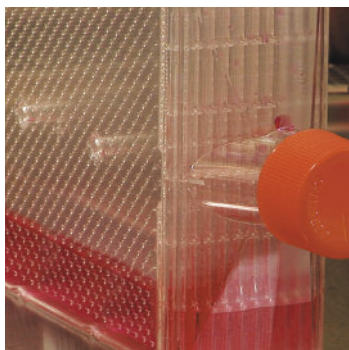

Figure 5. Any liquid inside the flask will distribute evenly into each layer of the flask when it is placed on its side.
3. Close cap securely and lay the flask on its side to allow the solution to distribute evenly between layers. This ensures that each layer of the flask receives the same volume of liquid (Figure 5).
3. Cap the flask and lay it on its side to allow the solution to distribute evenly between layers. This ensures that each layer of the flask receives the same volume of liquid (Figure 5).